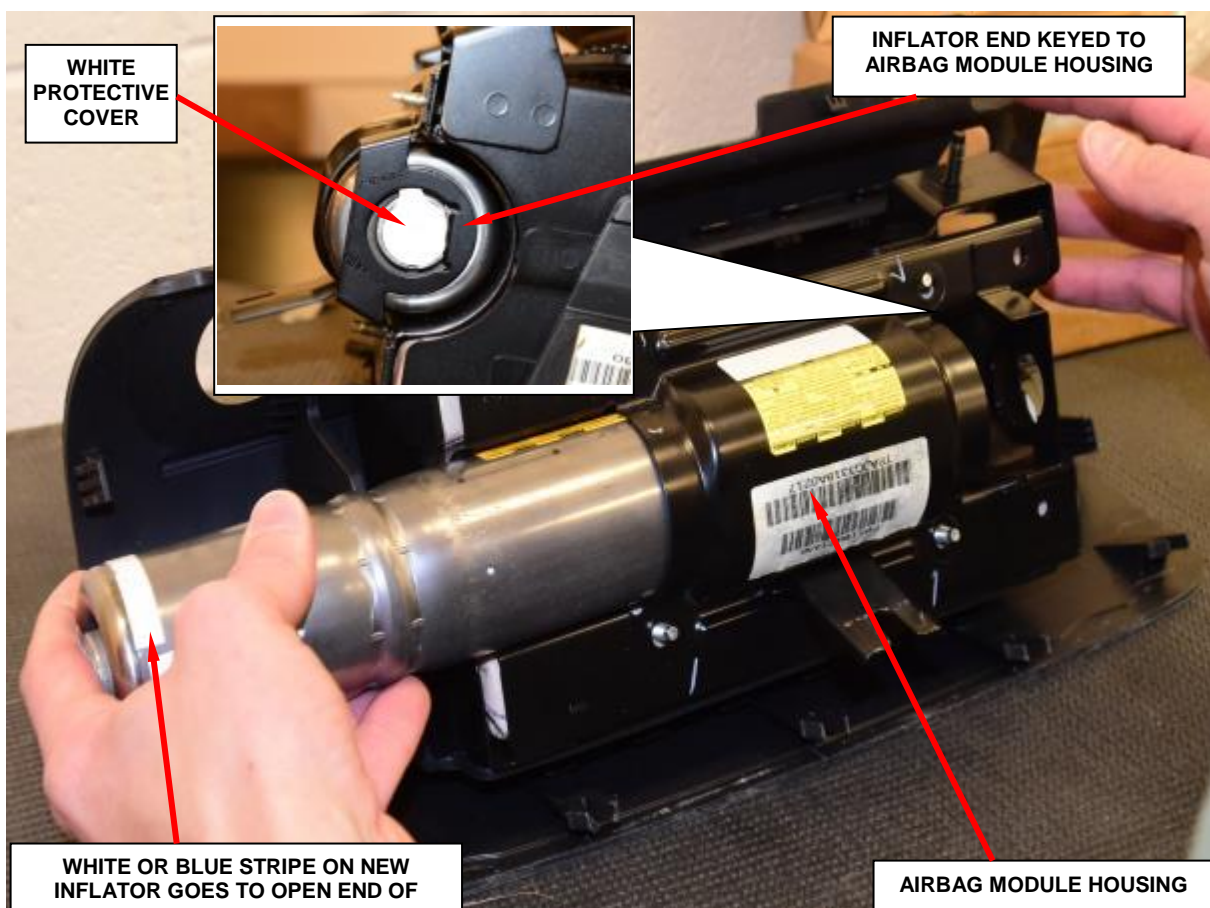

Figure 120 – Inflator Installation
NOTE: The inflator's key **MUST** line up with the housing's key (Figure 120).
- m. Slide the **old** inflator out of the passenger airbag module housing (Figure 120).
NOTE: The inflator is keyed to fit into the housing. Ensure that when the new inflator is inserted, the keyed end goes in first (Figure 120).
- n. Slide the **NEW** inflator into the passenger airbag module housing. The keyed end is inserted first; therefore, the white stripe on the **NEW** inflator will be located at the open end (Figure 120).